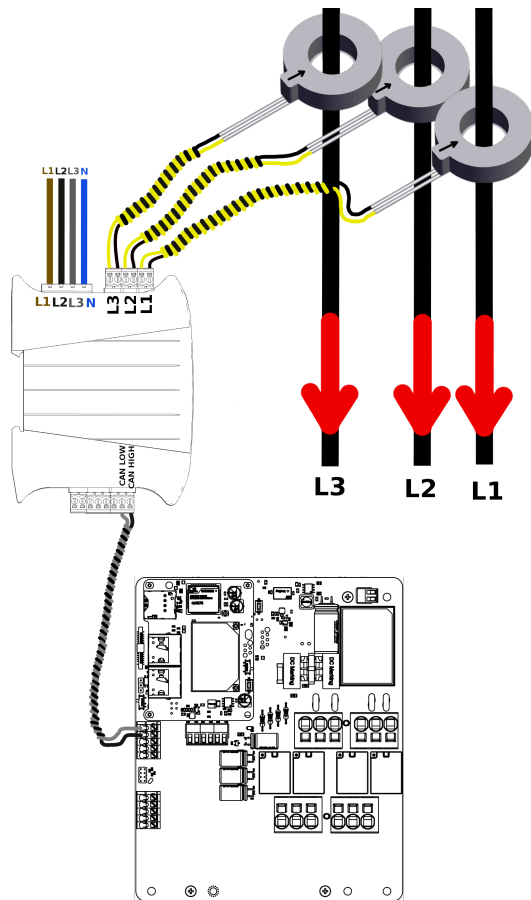

Fig. 6: Energy Guard 3-phase variant connection diagram.
3. Voltage lines (power supply) EEG should be connected under the order indicated in the diagram [Fig.6]. The device does not require additional protection. The cables on the switchboard side should be connected to the terminals of the apparatus located before branching the circuits in the switchboard (e.g. a meter or the main protection - overcurrent switch). We suggest using stranded type cables with a core cross-section of  $0,5 \text{ mm}^2$ .